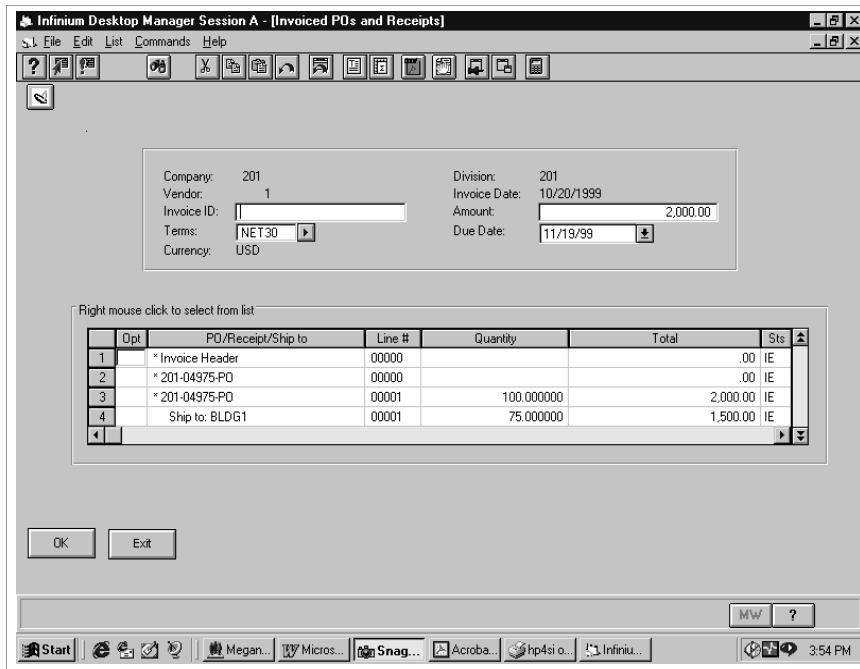

Figure 6-3: Invoiced POs and Receipts screen
The system displays the Invoiced POs and Receipts screen, which is similar to Figure 6-3.
- 1 At the Invoiced POs and Receipts screen illustrated in Figure 6-3, select a ship to line item.